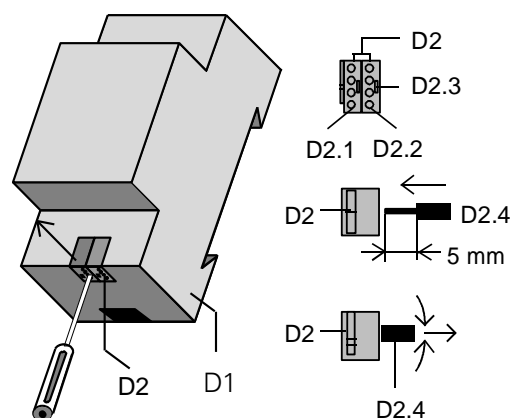

Figure 3: Connecting and disconnecting the bus wires
Slipping off bus connection blocks (Figure 3)
- The bus connection block (Figure 3, D2) is situated on the top of the device (Figure 3, D1).
- The bus connection block (Figure 3, D2) consists of two components (Figure 3, D2.1 and D2.2) with four terminal contacts each. Take care not to damage the two test sockets (Figure 3, D2.3) by accidentally connecting them to the bus cable or with the screw-driver (e.g. when attempting to unplug the bus connection block).
- Carefully put the screw-driver to the wire-inserting slit of the bus connection block's grey component and pull the bus connection block (Figure 3, D2) from the device (Figure 3, D1).
Slipping on bus connection blocks (Figure 3)
- Slip the bus connection block onto the guide slot and press the bus connection block (Figure 3, D2) down to the stop.
Connecting bus cables (Figure 3)
- The bus connection block (Figure 3, D2) can be used with single core conductors $\varnothing 0,6 \dots 0,8$ mm.
- Remove approx. 5 mm of insulation from the conductor (Figure 3, D2.4) and plug it into the bus connection block (Figure 3, D2) (red = +, black = -).
Disconnecting bus cables (Figure 3)
- Unplug the bus connection block (Figure 3, D2) and remove the bus cable conductor (Figure 3, D2.4) while simultaneously wiggling it.